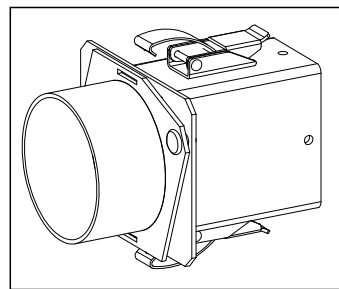

Figure 18.2
4. Attach the rear vent adapter to the exhaust blower housing with 4 screws. **Figure 18.2.**